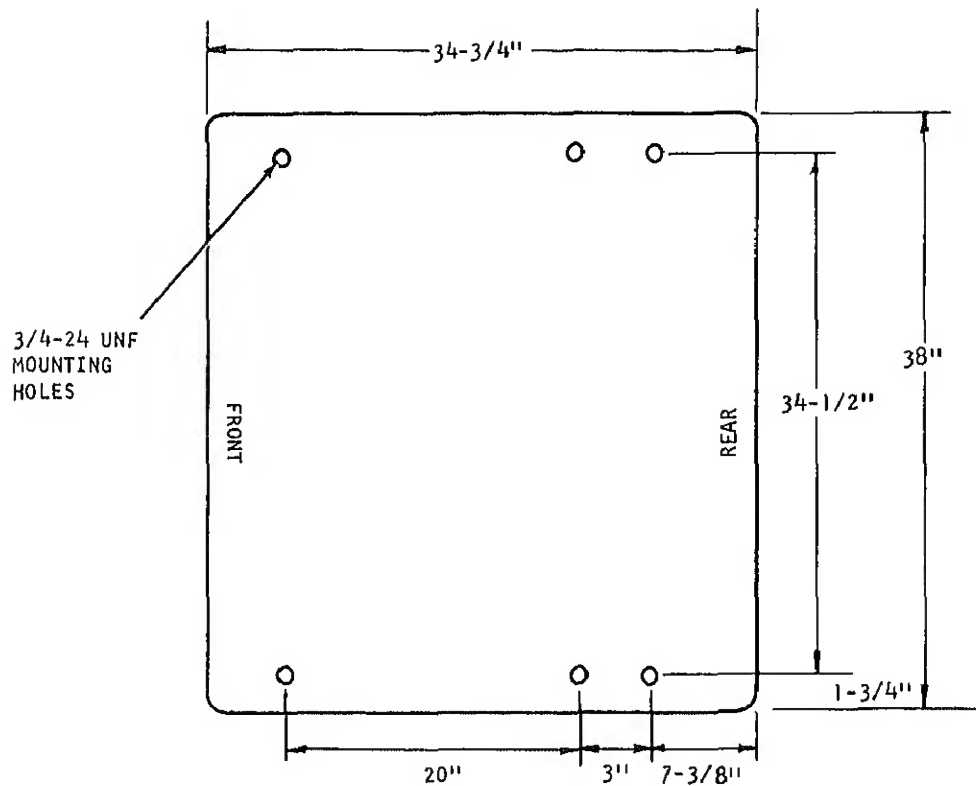
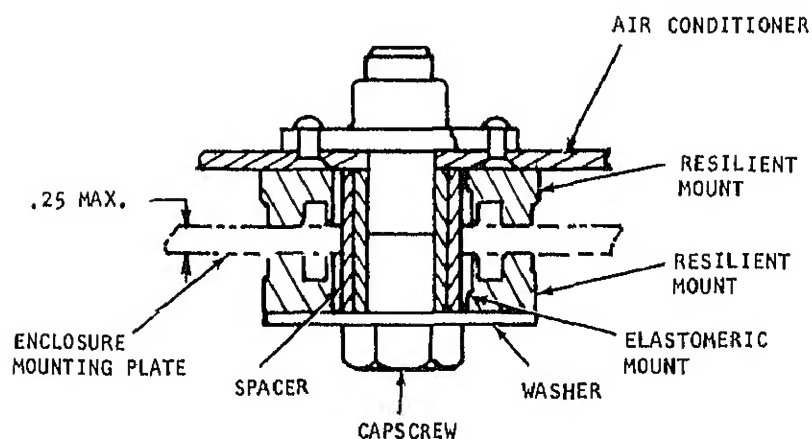

Figure 2-2. Base mounting holes
Figure 2-3. Typical installation of air conditioner to enclosure
c. Mounting. Base mounting hole dimensions are shown on figure 2-2. The resilient mount parts shown in figure 2-3 are shipped with the air conditioner.